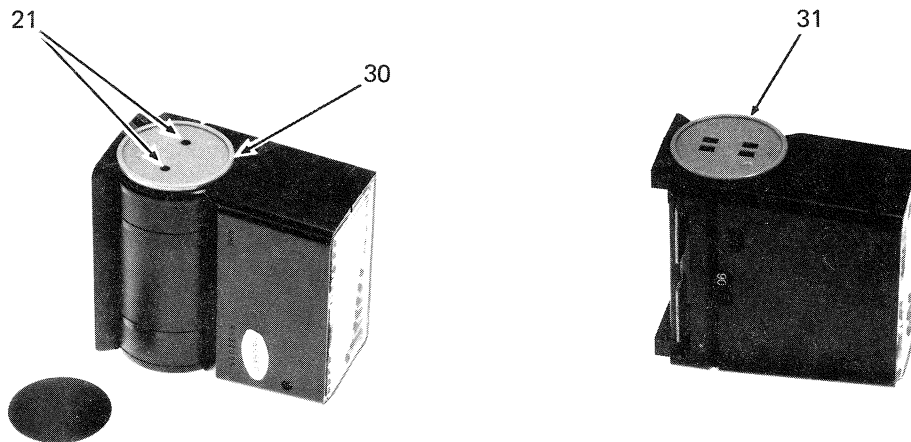

Figure 2-7. Bounce Axles R and L
- B. Remove two screws (21) on the bounce axle R (30). Lift bounce axle R (30) and bounce axle L (31) out of body case. (Figure 2-7)